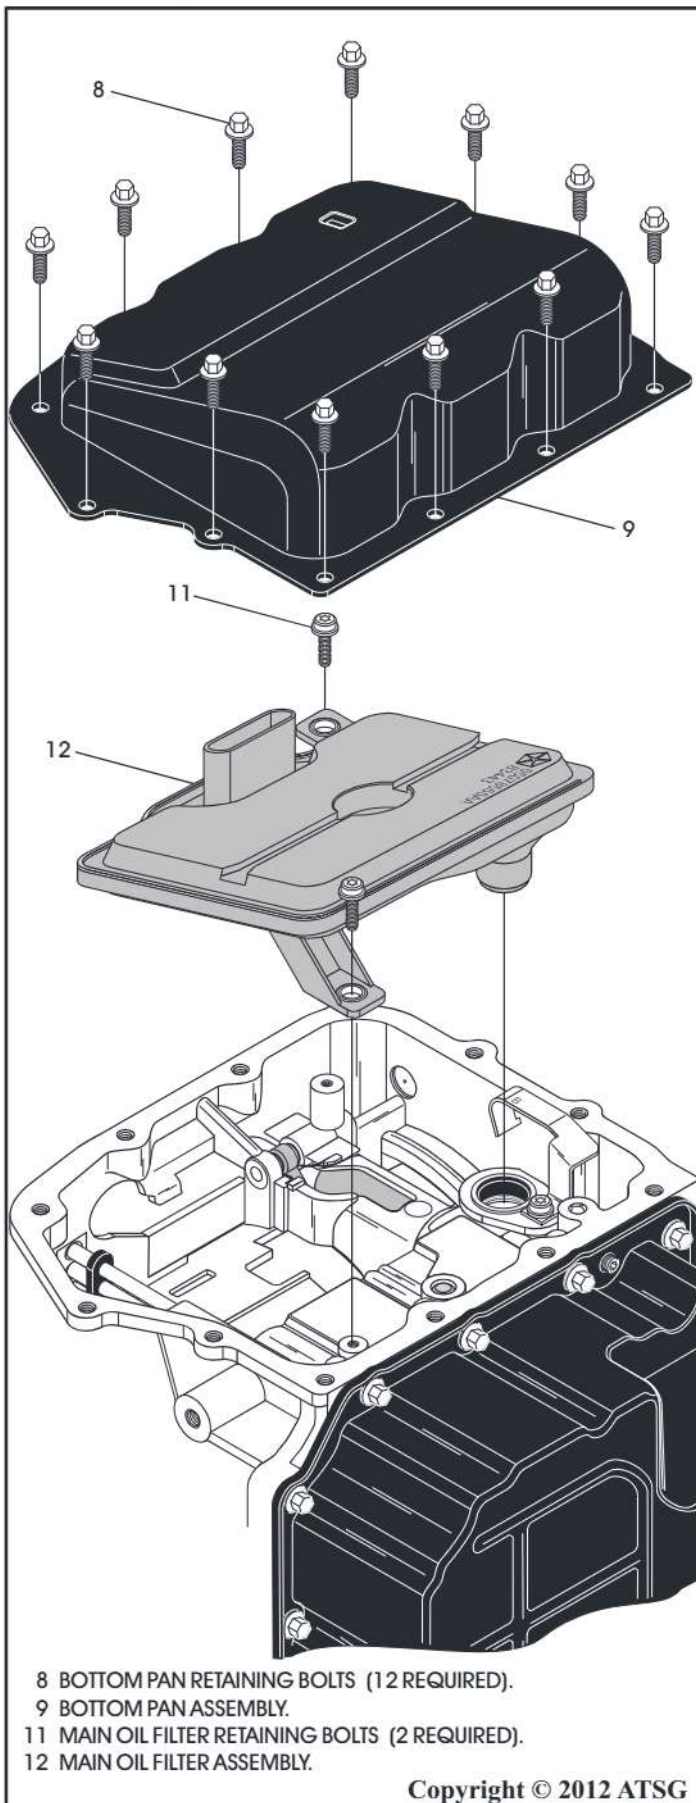

Figure 44
8. Remove the 12 bottom pan bolts, using an 8 mm socket, as shown in Figure 44.
9. Remove the bottom pan, as shown in Figure 44.
10. Remove the two main filter bolts, using a 25 torx bit, as shown in Figure 44.
11. Remove and discard the main oil filter, as shown in Figure 44.